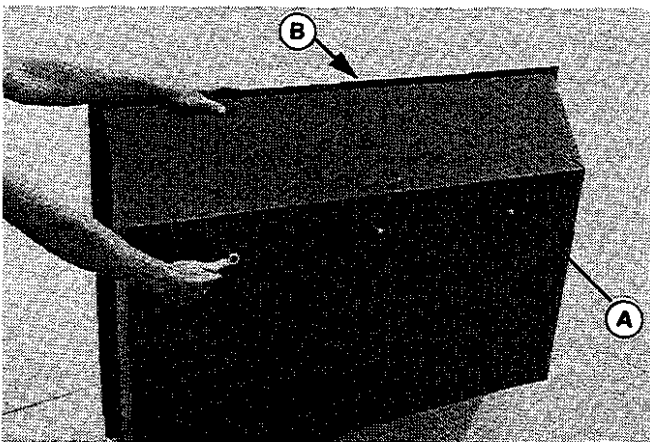

Figure 3
2. Install the U-bracket (A, figure 3) to the bottom of the box (B). Place the three $5/16-20 \times 3/4$ slotted truss head bolts and three flat washers ($1 1/32$ I.D., $3/4$ O.D.) through the inside of the box and the U-bracket. Secure with three $5/16$ lo&washers and nuts.